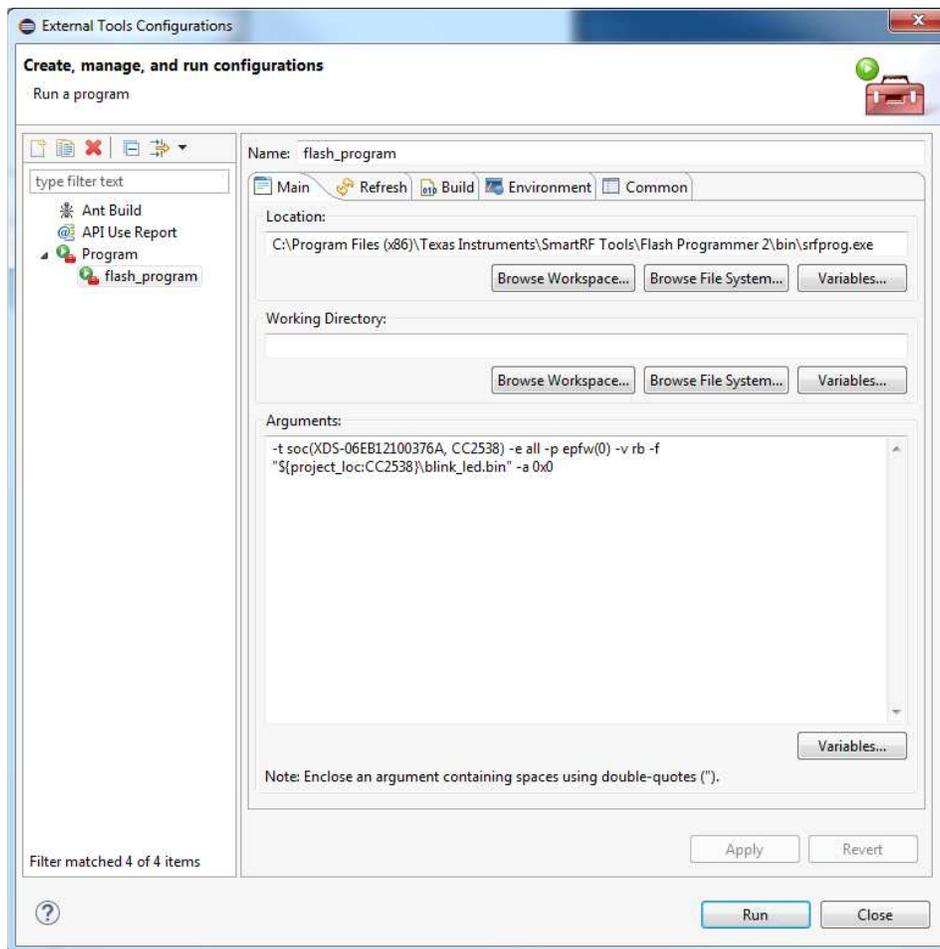

Figure 15. ID of the Detected EB Board
7. Fill in the fields 'Name', 'Location' and 'Arguments' as shown in Figure 15. 'Location' should be set to the directory where the SmartRF Flash programmer was installed. The location below is correct when the default installation directory is used.
8. Under 'Arguments' make sure to use the same XDS ID number as noted in step 4 (replace XDS-06EB121004B7A as shown in Figure 15 with the ID number noted).